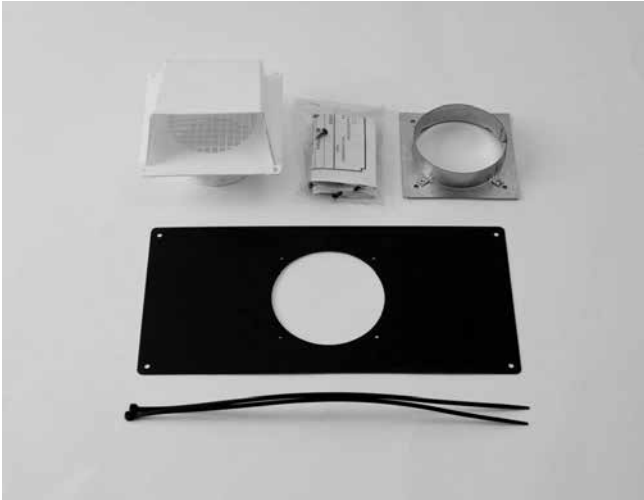

Figure 5.9
**Included in kit:** Termination cap, (2) wire ties, pedestal coverplate, flex adapter, and fasteners. See Figure 5.9.